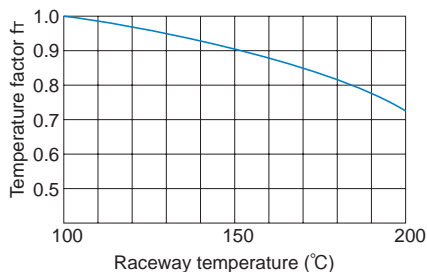

Fig.3 Temperature Factor (fT)
- $f_T$  : Temperature factor (see Fig.3 on A-557)
If the temperature of the environment surrounding the operating model ST exceeds 100°C, take into account the adverse effect of the high temperature and multiply the basic load ratings by the temperature factor indicated in Fig.3.